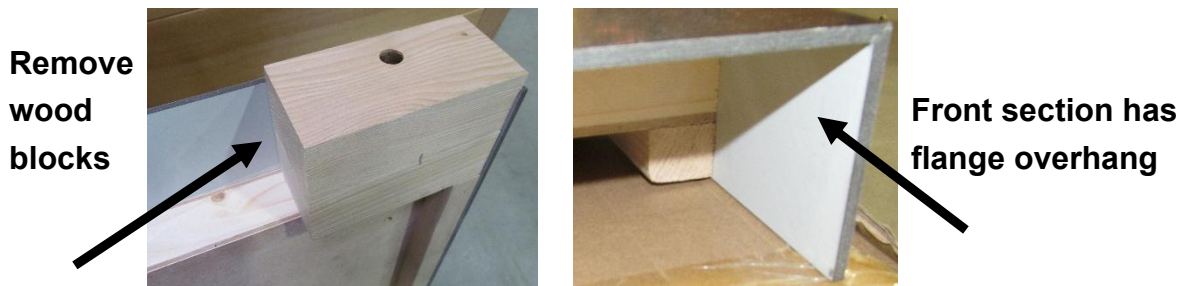
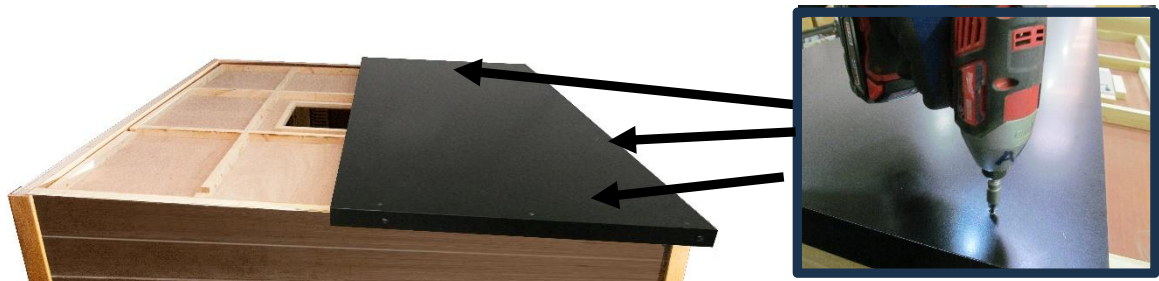
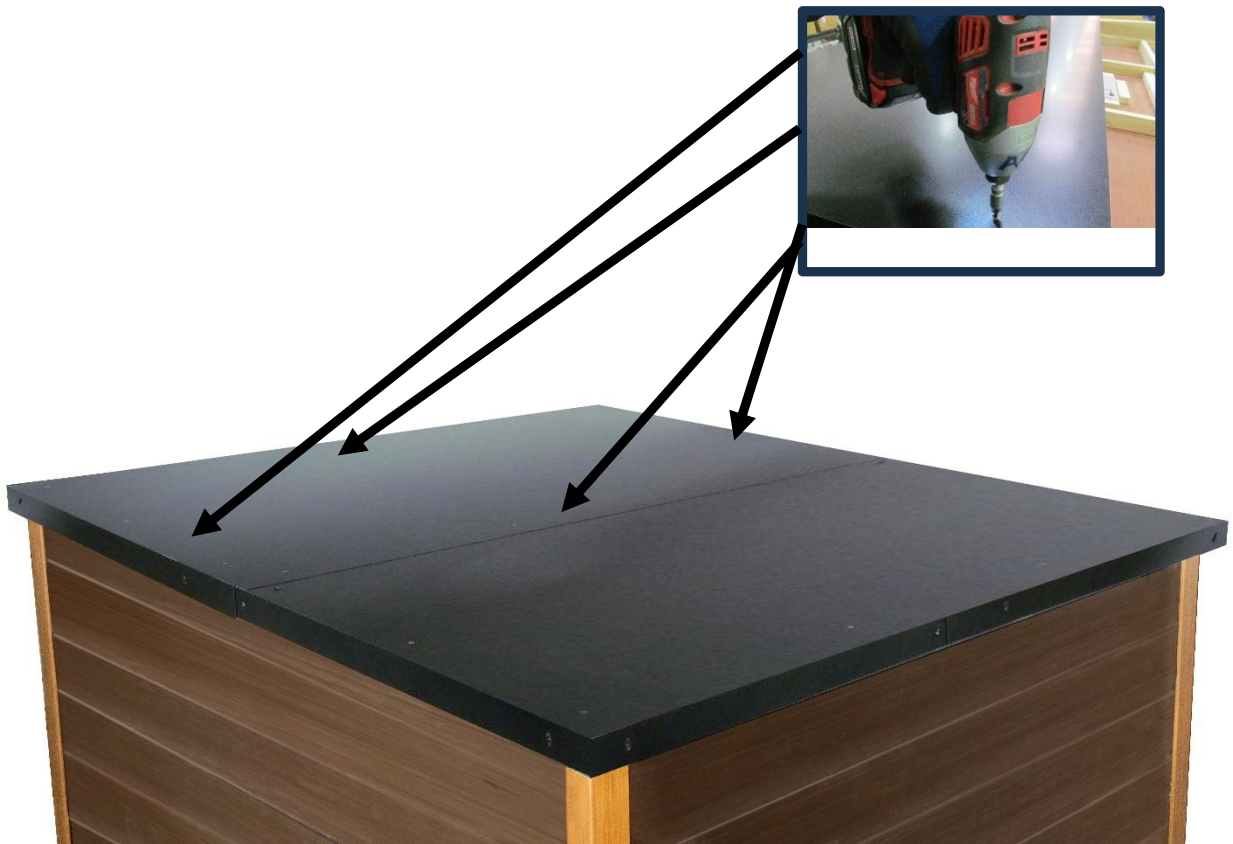

Figure 12
Figure 13
Figure 14
1. It is time to install the EXTERIOR ROOF PANEL sections onto the sauna room. You will need two ladders to install the EXTERIOR ROOF PANEL sections. Notice that there are two sections. One section has an extended flange overhang. Be sure to remove the protection materials including the wood blocks before installing. The section with the flange overhang is the front section of the EXTERIOR ROOF PANEL and will be installed after the rear section. See Figure 12. The smaller of the two sections is the rear section of the EXTERIOR ROOF PANEL. Two adults will need to lift the rear section up and onto the sauna room using the two ladders. Once the rear section is installed, make sure it is snug up against the REAR WALL PANEL and use the (8) screws to screw the rear section down to the wall panels at the pre-drilled holes. See Figure 13. Next, proceed to install the front section with the extended flange overhang over the rear section. Once the front section is installed, make sure it is snug up against the EXTERIOR FRONT WALL PANEL and use the (12) screws to screw the front section down at the pre-drilled holes. (see Figure 14)